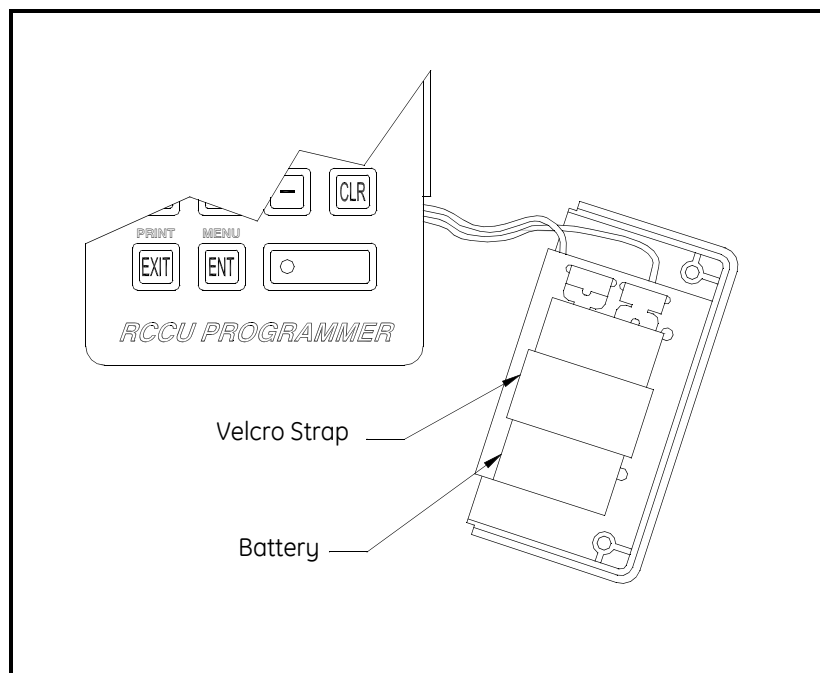

Figure C-6: Battery and Cover (IS Version)
2. Unfasten the Velcro strap that secures the battery to the cover, and remove the battery connector from the top of the old battery. See Figure C-6 below. Dispose of the old battery properly.
4. Replace the battery compartment cover and tighten the two (2) screws on the cover. The RCCU may now be safely brought into a hazardous environment.